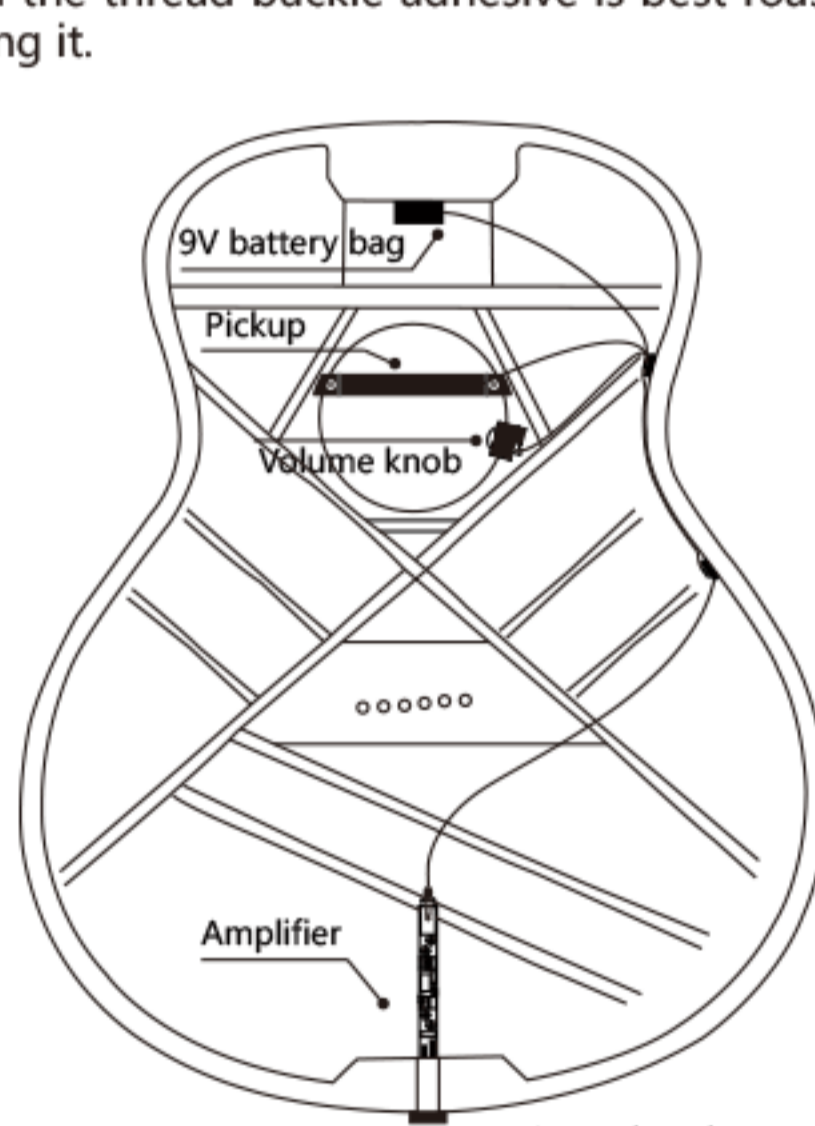

Fig.5
3. After the above steps, the pre-stage of the Tiny pickup is installed. The next step is to reasonably arrange and fix the internal wiring of the pickup. First, insert the 3.5mm plug of the main body of the Tiny pickup into the 3.5mm socket of the front stud, and place the battery pack inside the guitar. The tiny pickup volume control knob is placed near the sound hole. Put your hand into the sound hole, drag the three wires of the tiny pickup line, the sound control knob line, and the battery power line together at the same time, snap the three wire abutments, and touch the left side of the guitar waist, slowly move the abutment position to find the most After fixing the position, remove the adhesive tape sticker and fix it on the wooden board. Then separate the wire harness separately according to the placement of each component with a wire buckle. If a lead is too long, you can add a few more wires to this wire to fix it. The optimal fixing position is adjusted according to your actual situation. As shown in Figure 5, the general wiring is as follows. When sticking the wire clasp, first gently scrape off the wire back adhesive sticker with the thumb, and then stick it on the back side plate. Press the wire clinch to make the adhesive and the wooden board fully fit. (It is best to use a rag to clean the dust on the sticking surface of the wooden board before pasting, and the thread buckle adhesive is best roasted with a lighter before tearing it.